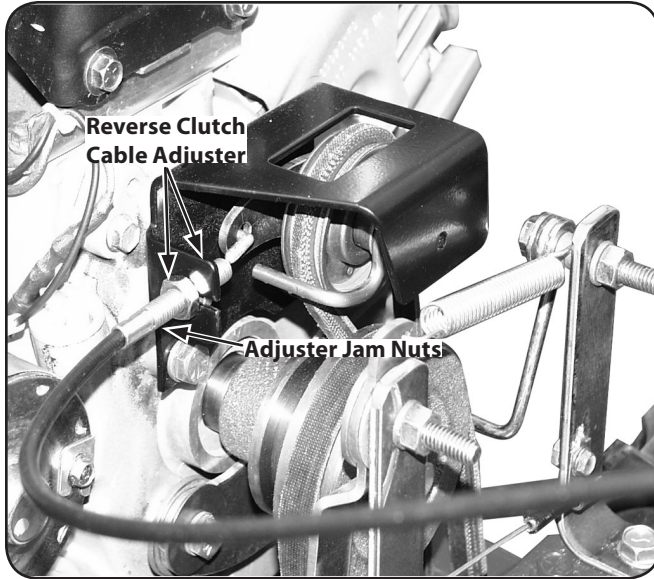

Figure 6-9
- Reverse belt tension adjustments are done with the reverse clutch cable adjuster located on the left side of the machine near the engine. See Fig. 6-9. Use two ½" open-end wrenches to loosen the two adjuster jam nuts a few turns.